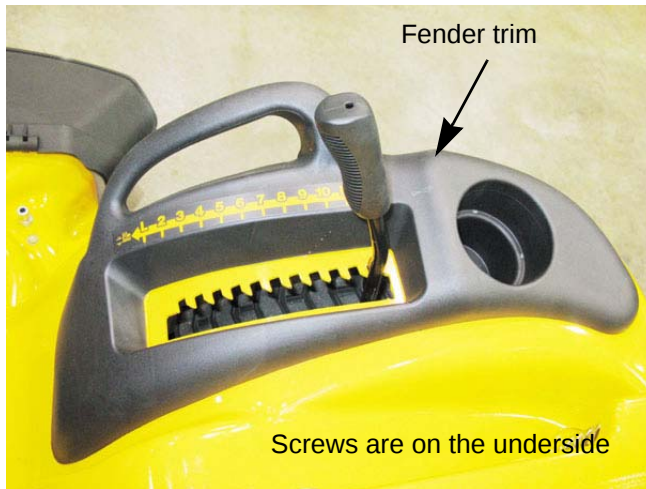

Figure 8.37
2. Remove the four screws that fasten that right side fender trim to the fender using a 3/8" wrench. See Figure 8.37.